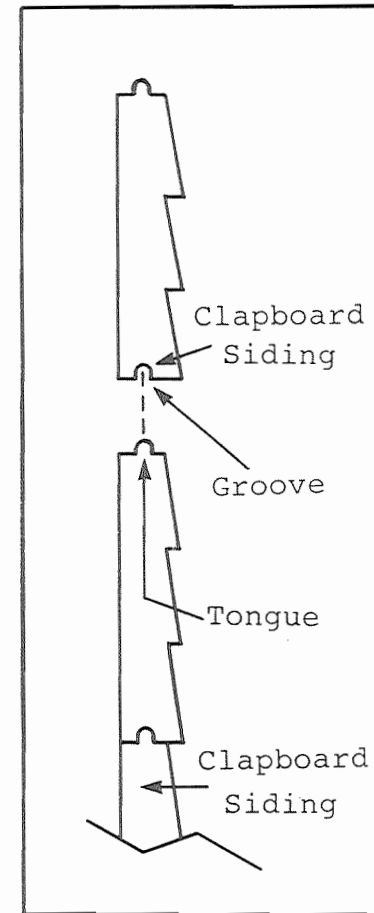

FIGURE 2A
5. Before using any glue, dry-fit the clapboard siding pieces to make sure they interlock without interference. Figure 2A shows how the pieces interlock. Sand or cut any protrusions to make sure the pieces fit together properly.